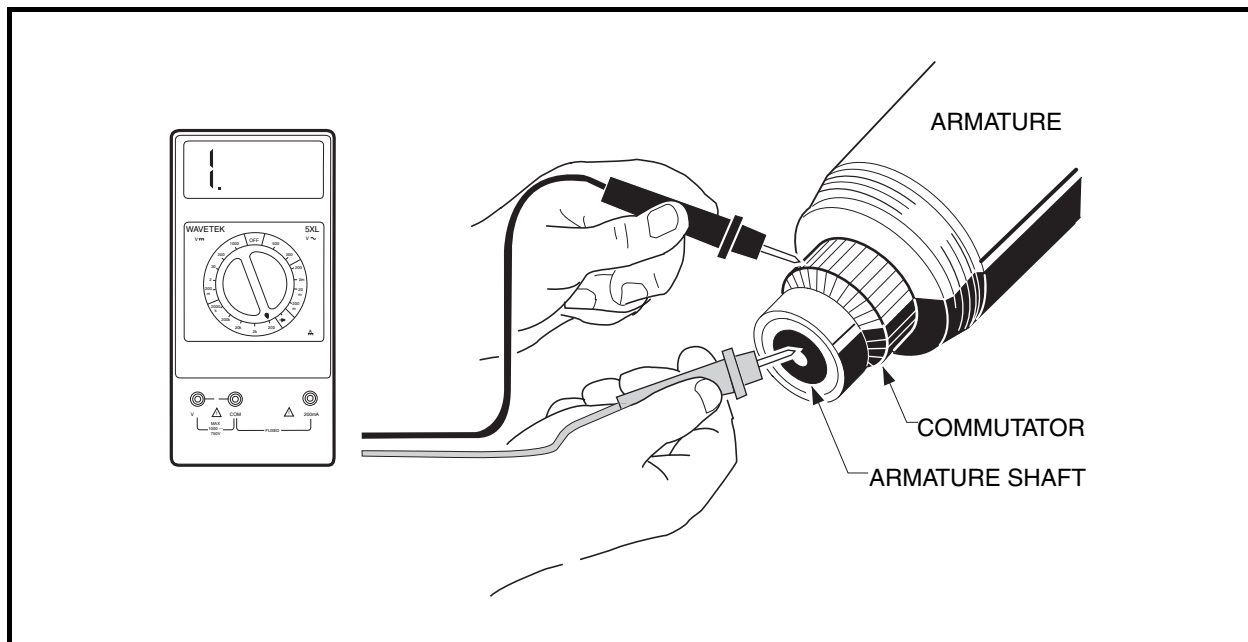

Figure 12-12 Armature Ground Test
1. Using a multimeter set on 200 ohms, place the positive (+) probe on the commutator bars and the negative (–) probe on the armature core. The reading should be no continuity. If the reading is incorrect, replace the armature and the two bearings (**Figure 12-12, Page 12-8**).